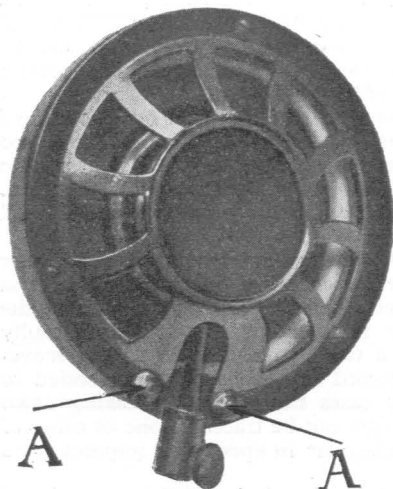
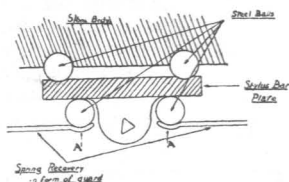

FIG. 15.—A modern sound-box in which the front cover forms the springs for the spring recovery of the stylus bar.
FIG. 16.—Diagram showing four ball suspension of stylus bar plate of sound box shown in Fig. 15.
The illustration Fig. 14 is of a composite sound-box in which the stylus bar is mounted on pivots. Figs. 15 and 16 are of a modern commercial sound-box—the Meltrope—in which the stylus is mounted on four steel balls. It will be readily seen by referring to Fig. 16 how the cover of this box forms the springs for the spring recovery of the stylus bar. The two points A
- in Fig. 15 correspond with the points A in Fig. 16.
- (5) Sound-boxes in which the stylus bar is mounted on end pivots are usually more prone to buzz than spring or ball-mounted stylus bars. The reason is that the pivots wear slightly and thus work loose; changes of temperature also affect the setting. The pivots should be delicately adjusted so that there is no end play and yet the stylus bar must be free. Too tightly adjusted pivots are just as bad as loose ones. Any one who understands metal turning and fitting will know at once how to adjust these pivots to a nicety. Be careful to see that the pivots do not slip when tightening the small lock nuts. Apart from buzzing, one effect of too tightly adjusted pivots will be to limit the response of the sound-box to both high and low notes.
- (6) If you have any reason to suspect the rubber gaskets of the sound-box replace them immediately. Hard or perished gaskets give a hard tone and cause an extraneous whistle. It is essential that soft pliant rubber be used. When the gaskets are placed in position there should be no gap between the two ends, neither should they overlap; they should be of the *exact* length required to go round the inside of the back plate.